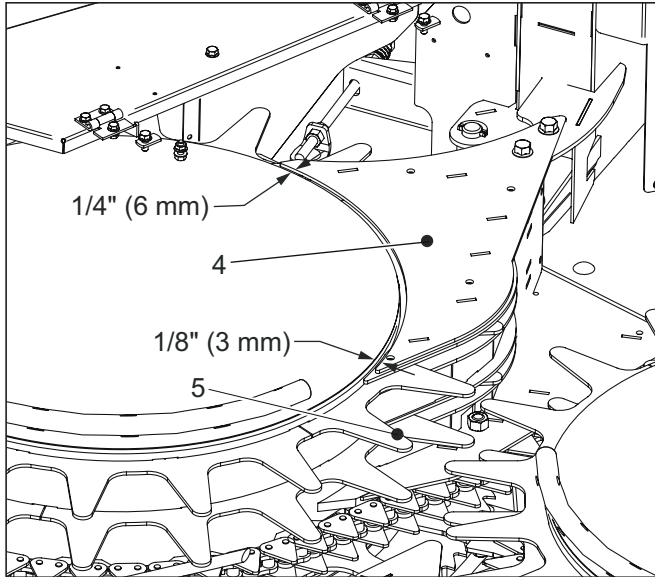

Figure 55 Drum adjustment
3. Position drums to obtain 1/8" (3 mm) between the front scraper finger (item 4 in figure 55) and the drum edge (item 5 in figure 55).
4. Move drum to get approximately 1/4" (6 mm) between the rear scraper finger and the drum (figure 55).
The two drums are factory adjusted and do not need adjustment, except in the case of repair (bearing replacement). An alignment may be necessary to center the drum fingers (item 5 in figure 55) between the scraper plates (item 4 in figure 55).